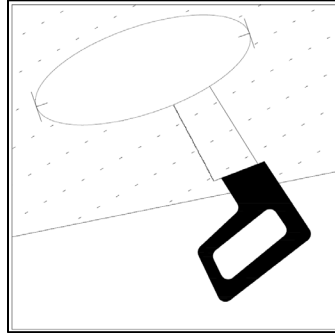

Figure 1
1. Remove existing retrofit fixture and recessed housing if present or move it out of the way since it will not be needed for installation. If a new hole is to be cut, use the provided hole template. Place template over the desired location. Trace the outer ring with a pen or pencil (not included). Cut the opening with a hole saw (hole saw is recommended to make the precise cut required for this installation) (see Figure1). Recommended hole diameter is 2.5".